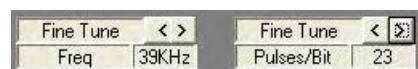

FIG. 59 AMX Library Files dialog - decreasing Frequency and Pulses/Bit values
- Try increasing or decreasing the frequency to the next value by clicking on the **Fine Tune** arrow buttons. Also, try adjusting the Pulses/Bit value. Click on **TEST** to re-test the function (FIG. 59).